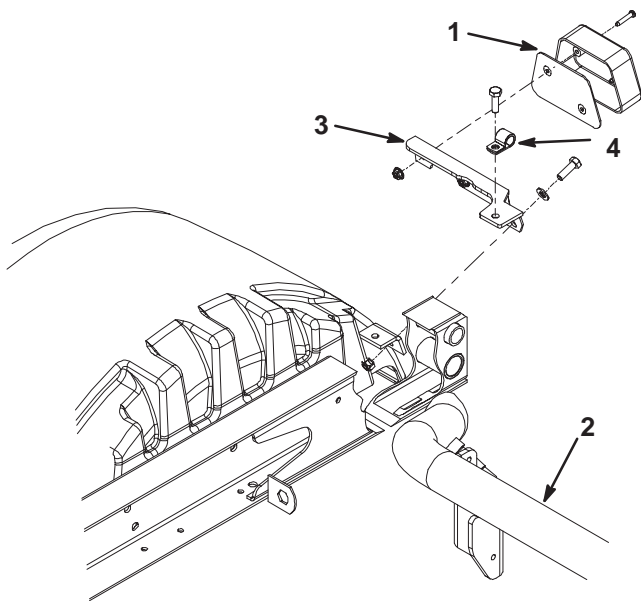

Figure 12
- Unplug the vehicle wire harness from the left tail light (Fig. 12).
43. Mount the tail light assembly to the tail light bracket with 2 pal nuts (Fig. 12).
44. Mount the tail light bracket to the rear frame with (2) 1/4—20 x 3/4 “ lg. capscrews, a flat washer, a R-clamp and (2) locknuts (Fig. 12). Route the wire harness through the R-clamp.